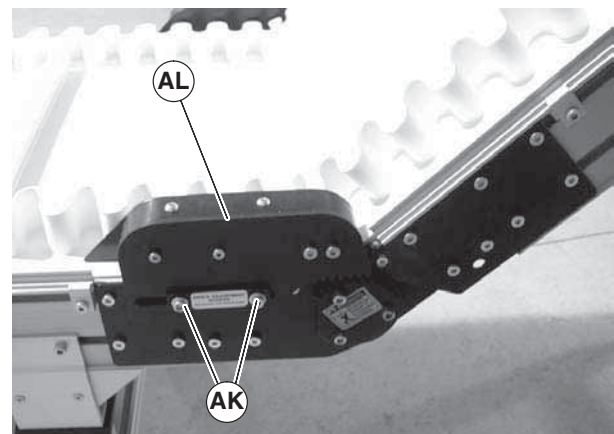

Figure 24
- If equipped, remove screws (Figure 24, item AM) on both sides of knuckle and remove guard (AN).